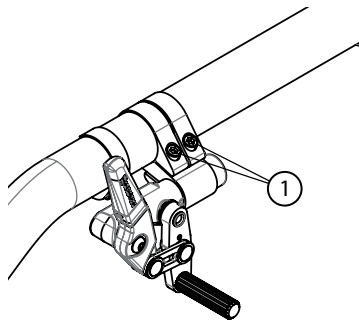

Fig. 2
- To engage the locks, push wheel lock handle (Fig.2) forward (for push-to-lock type) or pull wheel lock backward (for pull-to-lock type) until the lock is fully engaged.